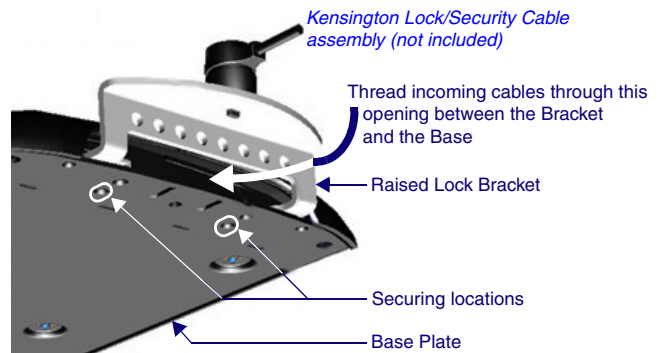

FIG. 4 Raised Securing locations
3. Use the Keyed-Lock screwdriver adapter to tighten these screws, securing the Raised Lock Bracket to the base plate (FIG. 4).
4. Thread the incoming cables through the opening between the bottom of the Raised Bracket and the Base Plate (FIG. 4).